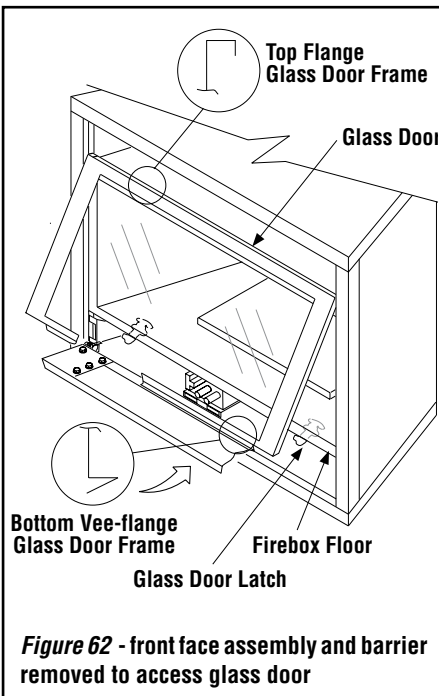

Figure 62 - front face assembly and barrier removed to access glass door
Removing Glass Enclosure Panel (see Figure 62)
Locate the two (2) glass door spring latches at the top of the control compartment (see Figure 62). Pull out each spring latch until it disengages from the door frame bottom vee-flange.
Installing Glass Enclosure Panel (see Figure 62)
Position the door in front of the firebox opening with the bottom of the door held away from the fireplace (Figure 62). Hook the top flange of the door frame over the top of the firebox frame.